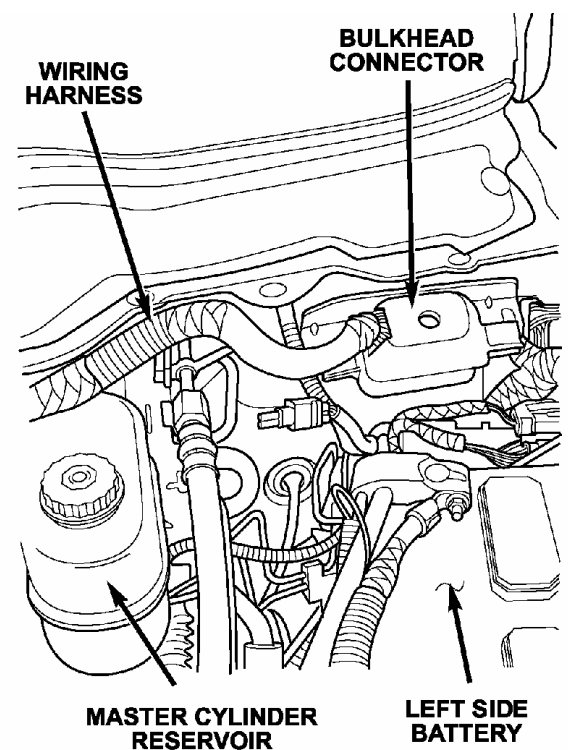

Figure 4
5. Disconnect the bulk head connector (Figure 4).
26. Connect the bulk head connector (Figure 4).